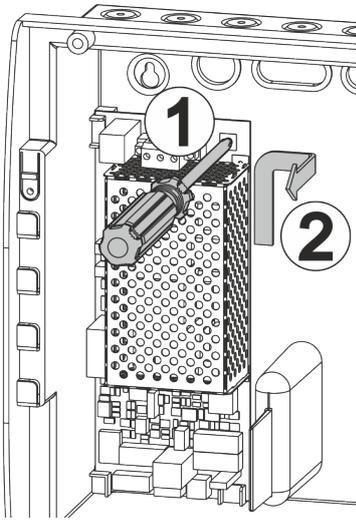

Figure 14: Removing the PSE
- To remove the PSE PCB from the back box, simply remove the screw (1) and push the PCB up, to the right and forwards, see Figure 14
- Secure the PSE PCB back into the back box by following the reverse instructions in Figure 14.